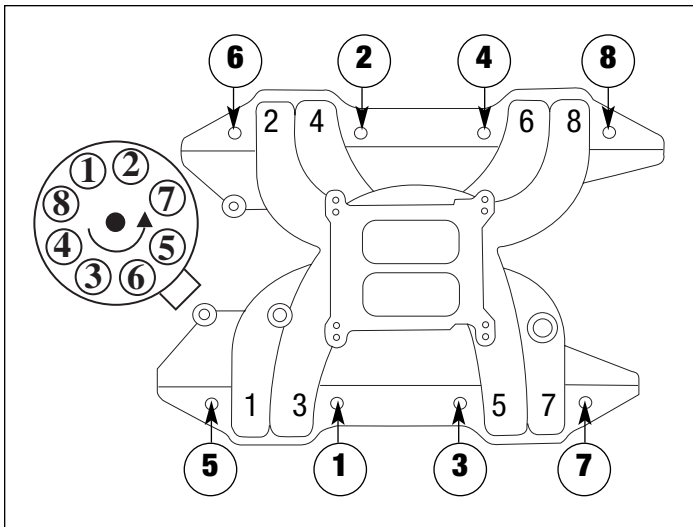

Figure 1 - Intake Manifold Torque Sequence
4. Install the intake manifold and hold-down bolts. Torque all of the manifold bolts in two steps by the sequence shown in Figure 1 to 25 ft/lbs.